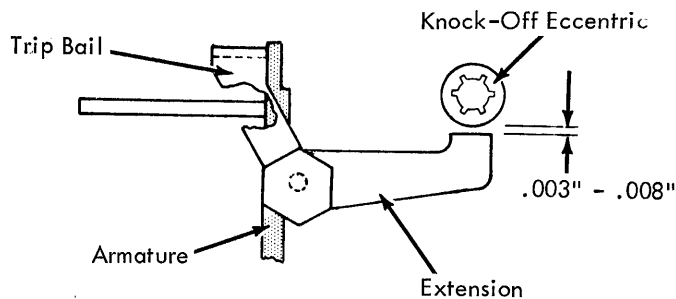

FIGURE 34. Knock Off Eccentrics
- b. Apply slight pressure to the knock off extension (Fig. 34) or trip link extension to hold the bail in contact with the armatures.
9. Knock Off Eccentrics (Fig. 34) - Adjust (T2 and R5 armatures manually attracted) to clear the trip bail extensions by .003" to .008".
4. Knock-Off Eccentric (Late Style) - The redesigned trip bail contains only one extension. It is adjusted to .003" to .008" as shown on Fig. 34.